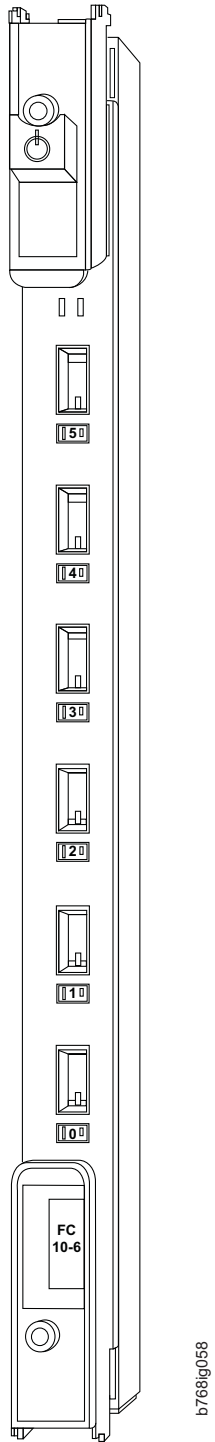

Figure 54. FC10-6 port blade, ports 0-5 (bottom to top)
- Figure 54 on page 152 shows an FC10-6 port blade